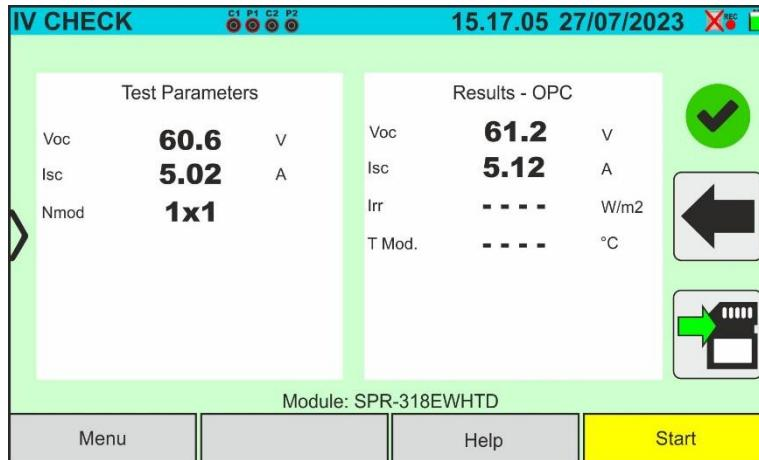

Fig. 76: IVCK test result @OPC with synchronous recording
16. Press the **START/STOP** key (or **Start** on the display) to activate the tests. If there are no error conditions, the instrument will show the icon "Ξ" on the display for a few moments together with the message "**Measuring...**" The test can take **up to approximately 20 seconds**, depending on the open circuit voltage and module parameters. At the end of the test, the instrument will **only** display the values **measured at OPC without the references of the irradiance and temperature values of the module** (see Fig. 76) and it is necessary to wait for the end of the test session and the **subsequent synchronisation** with the SOLAR03 remote unit to obtain the final result (values @ STC) of the tests performed, as shown here below: